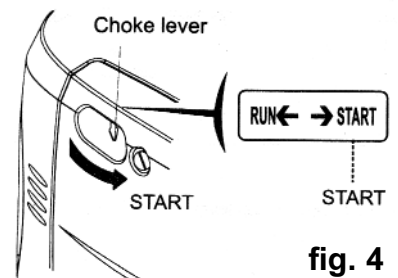

fig. 4
- 3.2.4 Move the choke lever to the START position. Refer to fig. 4